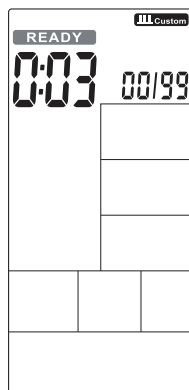

FIGURE 35
- The time counts down from 3 to 0 and then the console starts up, while an audible alert sounds per second and READY flashes once per second, the countdown displays ' 00/XX' (Figure 35).